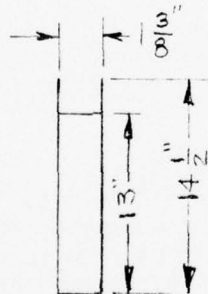

FIGURE 8 - CATHODE SCREEN ASSEMBLY
7. Measure 13" from the bottom of the screen edge on each narrow side and mark and cut out with scissors as in Figure 8.